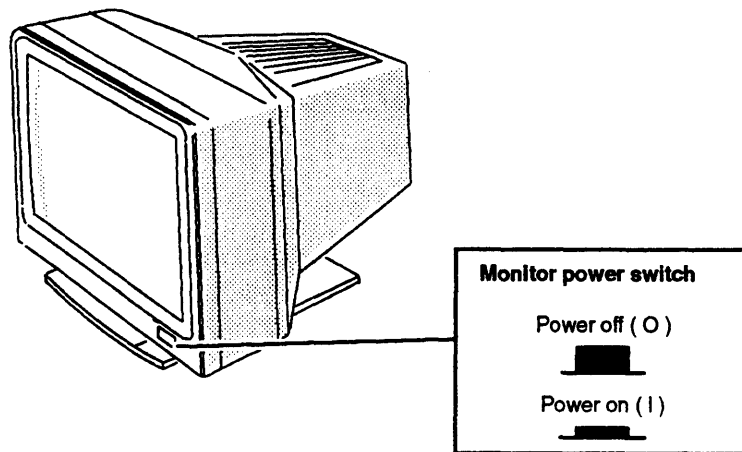

Figure 3-1 Monitor Power Switch
1. Turn on power to the system console. For graphics workstations, turn on power to the display monitor, as shown in Figure 3-1.